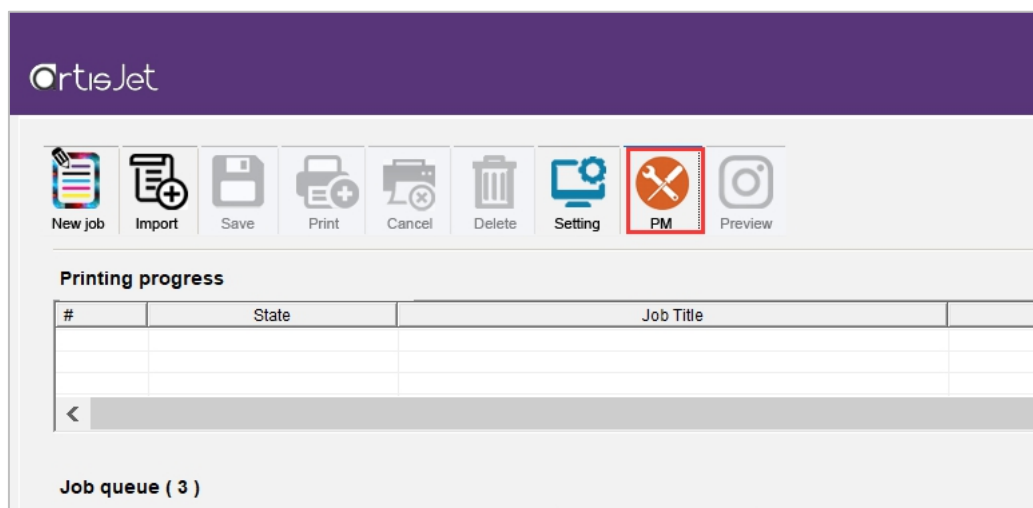
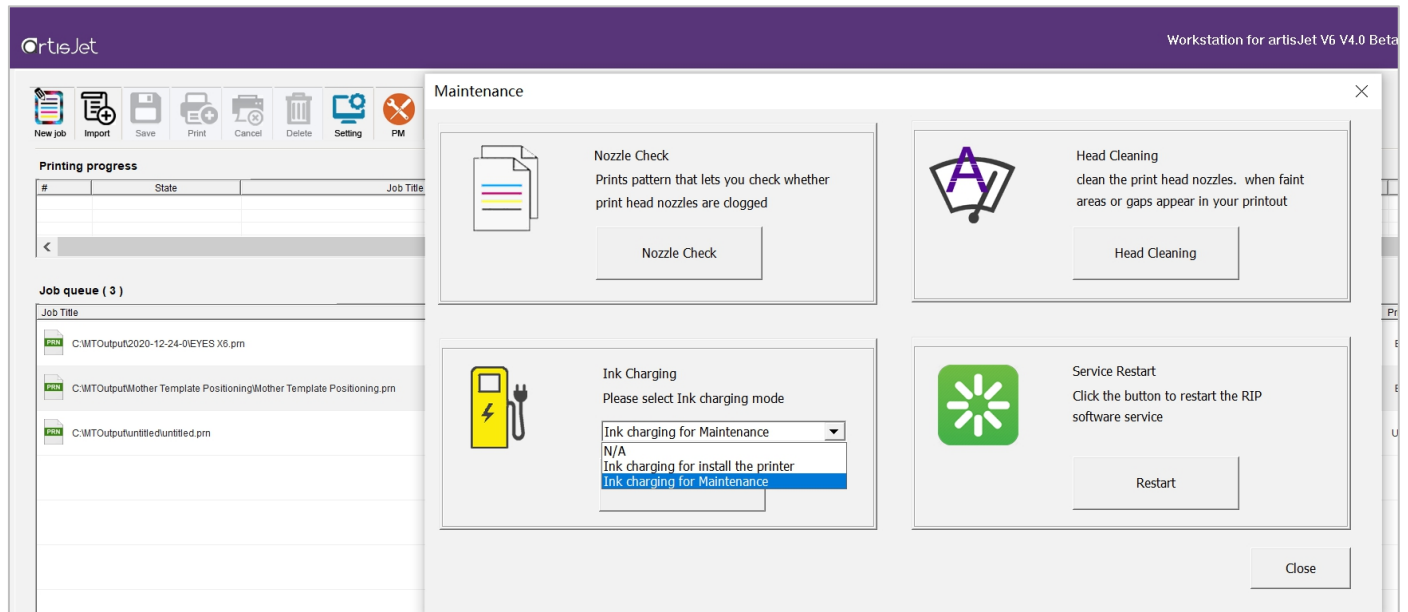

Fig.21 –PM option from print software(artisJet Workstation for ProV6 V4.0 Beta)
Fig.22 –Ink charging for maintenance
***the arrow buttons work in Engineer Mode only (as shown in Fig. 22)**
Enter the engineer mode (Fig.21) and then enter the password*(Fig.22).
From Ink Charging option, choose **Ink charging for maintenance(Fig.22 –Ink charging for maintenance).**